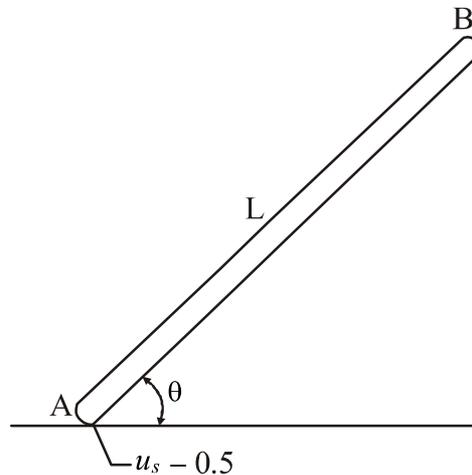

FIG.3
14. Determine the smallest angle θ for which the slender bar (Fig. 3) can remain at rest. The bar is homogeneous of weight W and length L . Neglect friction between the bar and wall at B point.